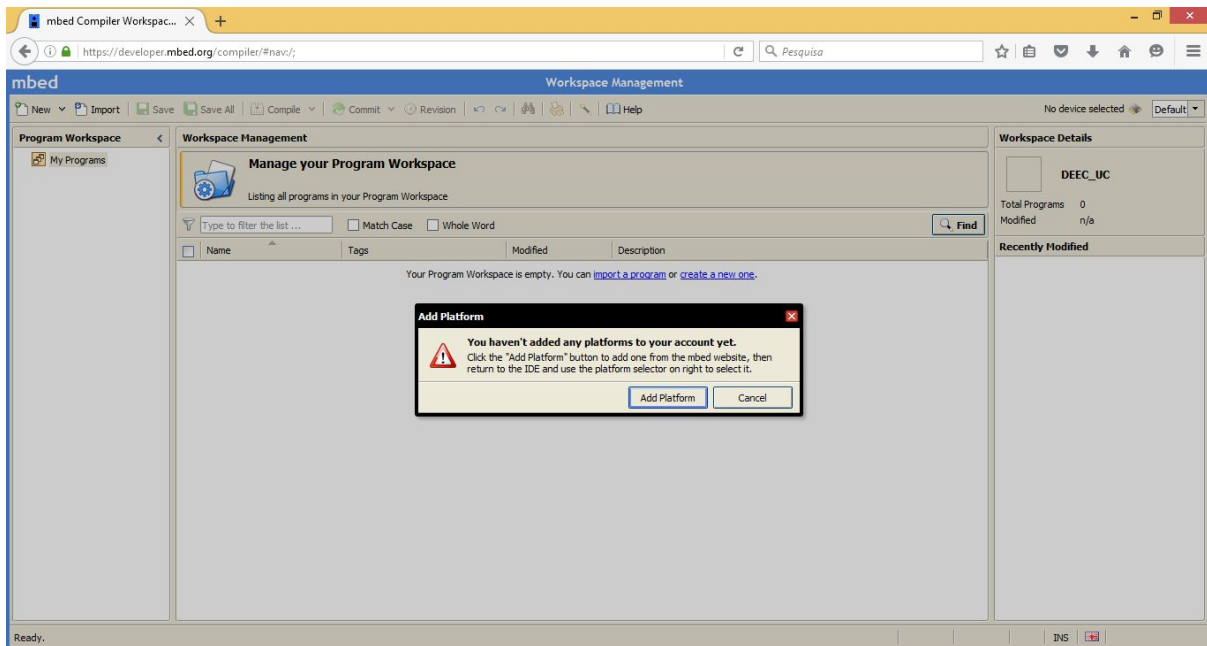

Figure 7. Message asking to add the platform.
- **The first time you create a new program** will appear the message "**Add Platform**" to request to add the platform (see Figure 7). Follow the next procedure (it will be needed **only in the first time**):